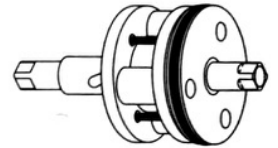

**Figure 6: O-ring locations**
3. Place the thrust race washers and bearing in the male end cap. (The thin washer goes in first, as in **Figure 6**.) One of the flats on the drive shaft will line up with a line drawn between two of the holes in the O-ring plate, as shown in **Figure 8**. Slide the subassembly onto the pins of the male end cap with this flat lined up with the air inlet on the end cap.
5. Place the thrust race washers and bearing in the female end cap. (The thin washer goes in first, as in **Figure 6**.) Press the end cap into the cylinder, making sure that the air inlet hole is in the same orientation as the one in the male end cap.